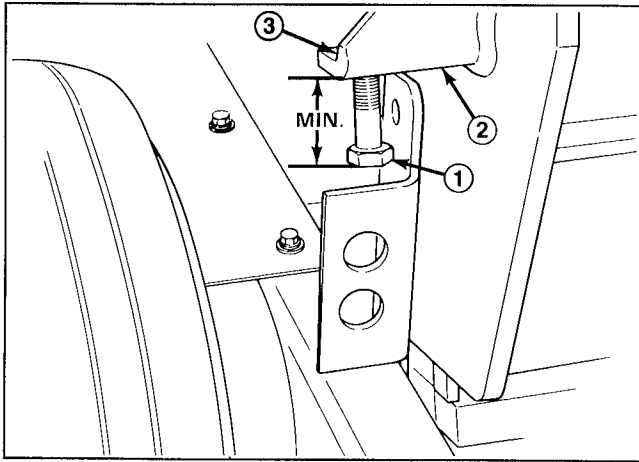

Figure 19
2. Loosen jam nut on top of adjusting bracket (Fig. 19).
3. Thread adjusting screw into bracket to increase coring depth and out to decrease depth (Fig. 19).
4. Maximum recommended coring depth is achieved when distance from end of screw head to bracket is 11/16" (Fig. 19).